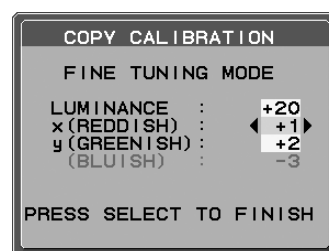

Figure C.6
10. At the FINE TUNING MODE message (**Figure C.6**), press SELECT if the copy result is satisfactory. If the copy result is unsatisfactory, manually fine tune the white point using the "LEFT" and "RIGHT", and press SELECT.